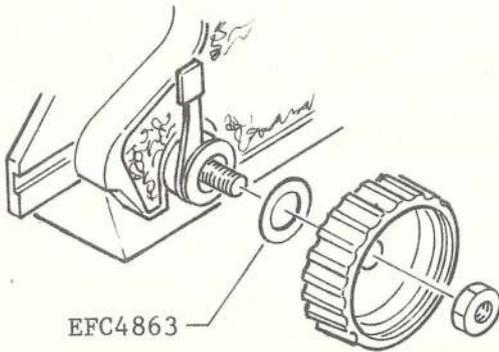

Fig.15
- b) Use Washer EFC 4863 ($t=0.05$, 0.1 , 0.3 and 0.5) to adjust the position of Cosuing knob fixing lever. Fig. 15